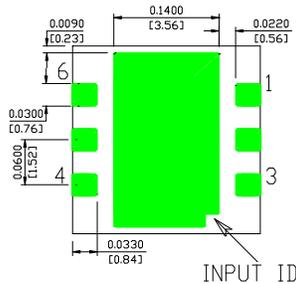

Figure 1 Bottom side of WHM25-1525AE
Figure 1 shows the bottom side of one WHM series amplifier example, WHM25-1525AE, 2.2 ~2.6 GHz low noise amplifier. The center paddle serves as the ground pad. Pin 1 is the RF input, Pin 2 or Pin 4 for +5V DC power supply. These two pins are connected internally inside the module. Pin 3 and Pin 6 are non-connection (NC) pins. Pin 5 is the RF output.